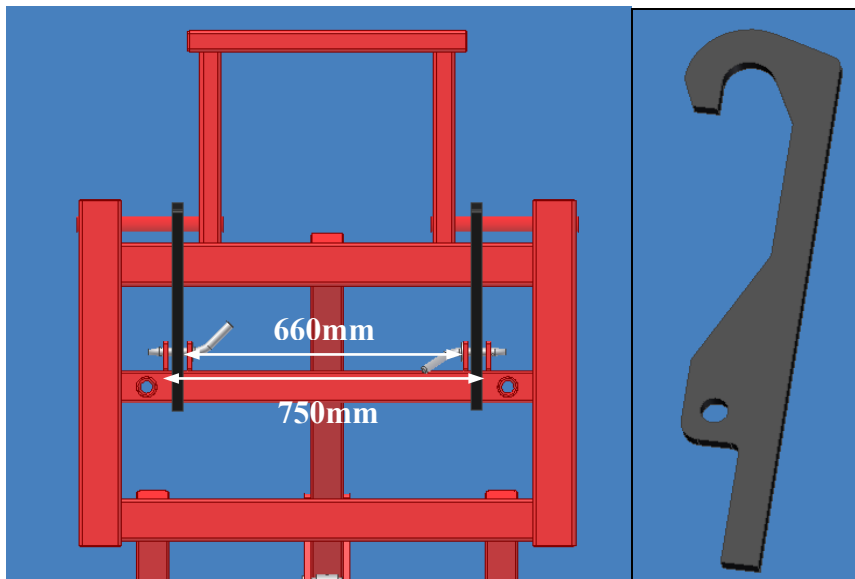

Figure 2: Ensure brackets are welded between 660-750mm apart on the back frame of the RH2200 Bale Handler as to fit between the lugs on the Multi-Stacker frame.
- b. Weld the two brackets onto the back frame of the Bale Handler ensuring they are between 660-750mm apart as shown on Figure 2.